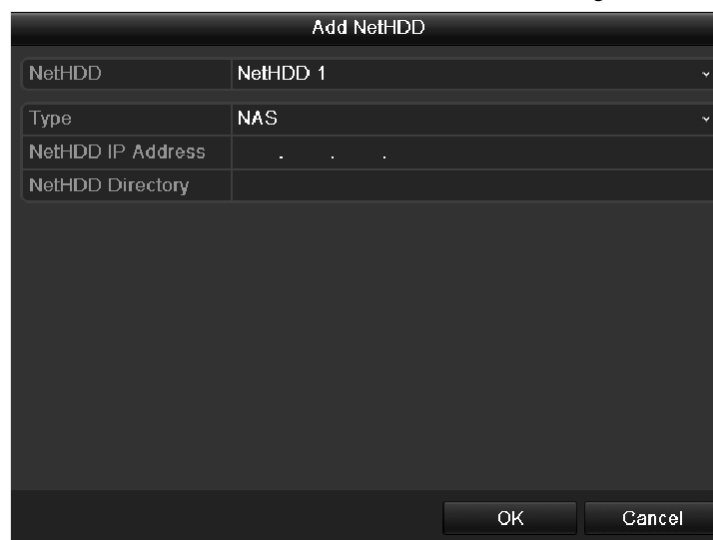

Figure 10.6 HDD Information Interface
2. Click the **Add** button to enter the Add NetHDD interface, as shown in Figure 10.6.